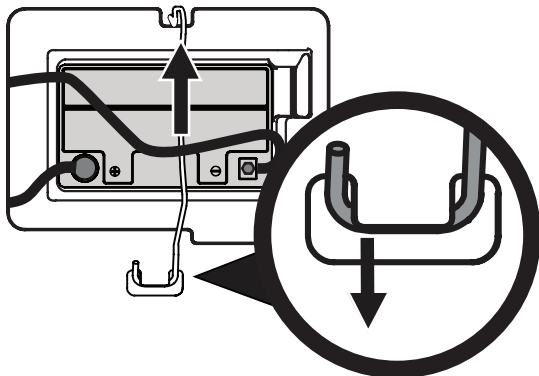

Figure 13
**NOTE:** Wiring harness should lay on top of battery hold down rod, otherwise damage to the wiring harness may result (Figure 13 on page 13).
3. Remove the battery hold down rod by pushing the hooked end out of the tab on the fender to the right side of the battery. Then flip the battery hold down rod up to free the battery (Figure 13).